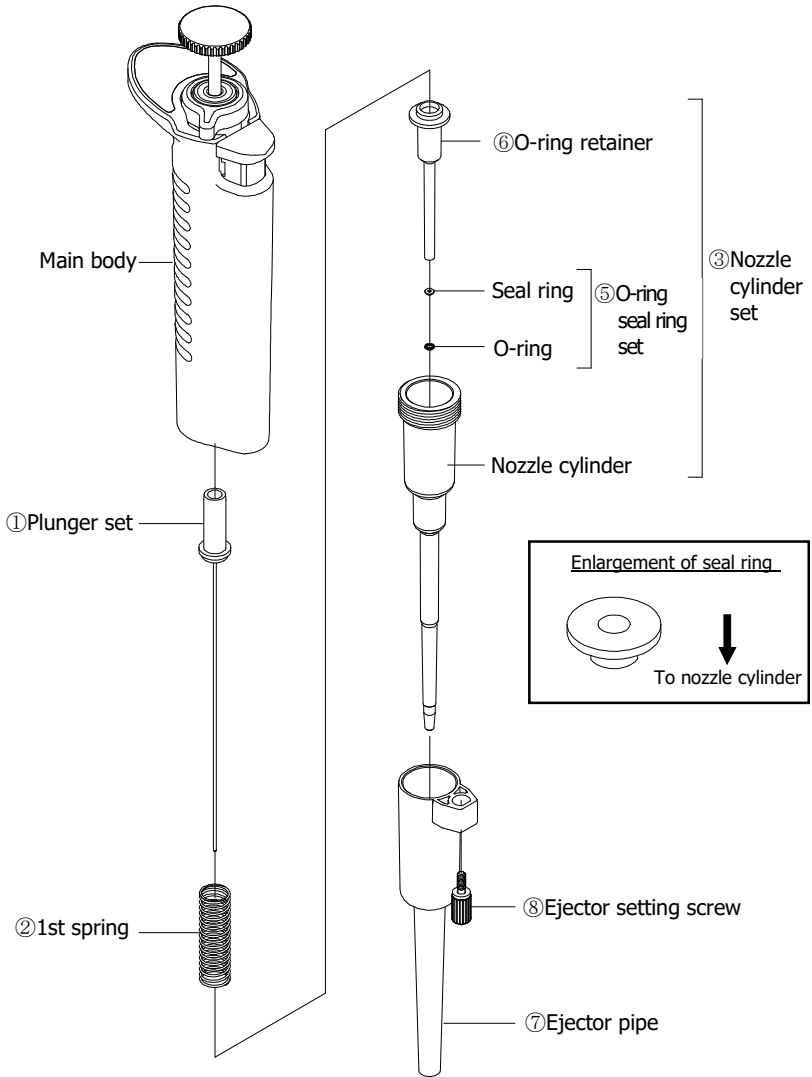
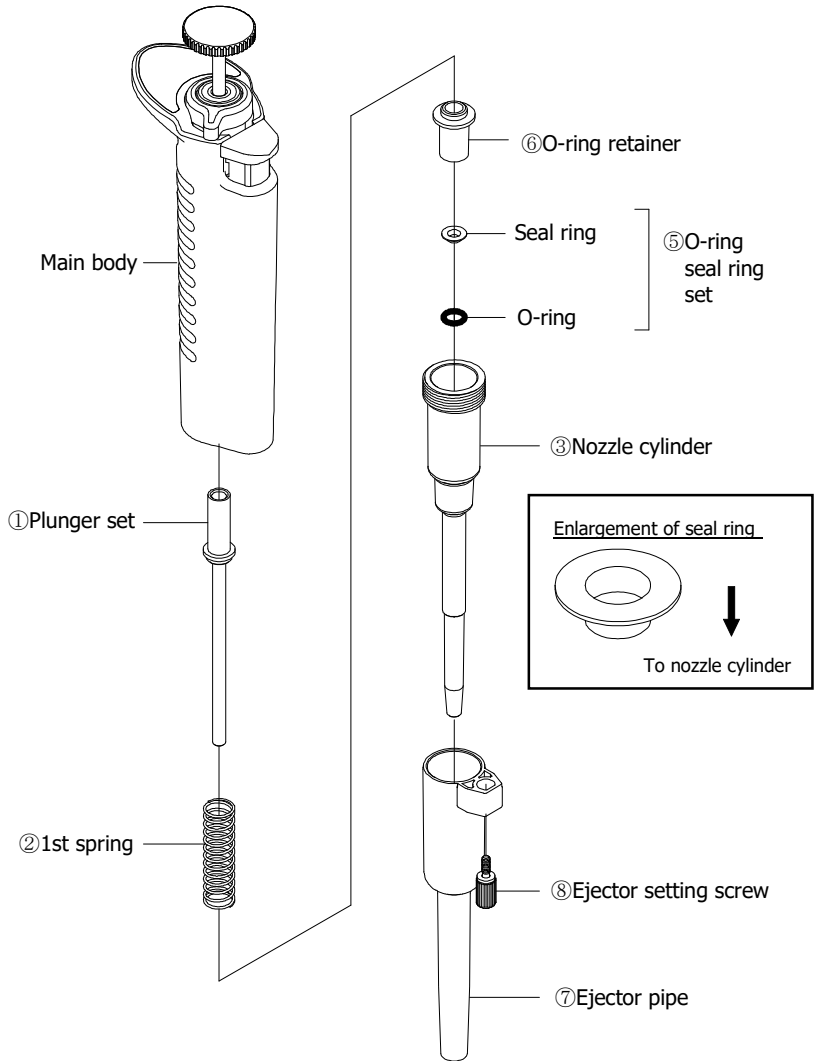
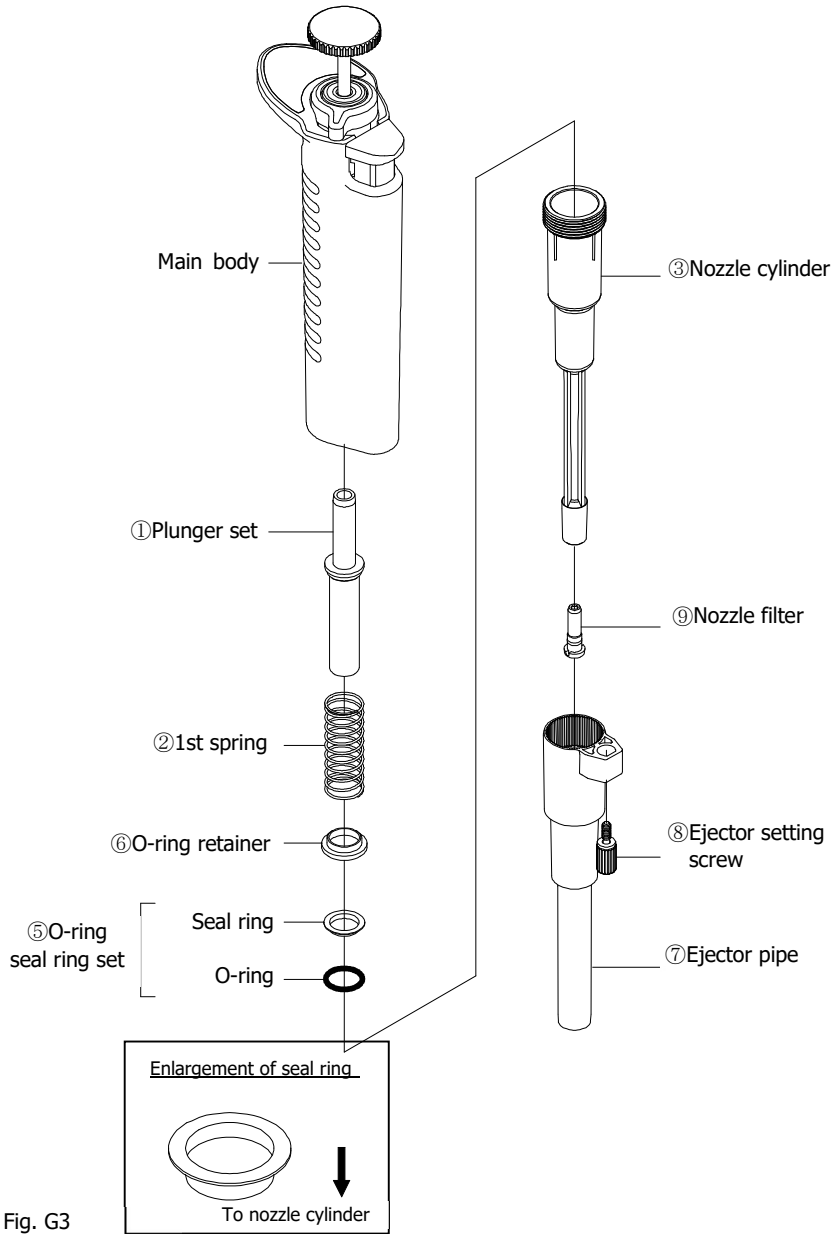

Fig. G1
Fig. G2
Fig. G3
- 3) Disassemble the internal parts as shown in; (Fig. G1) for Models: 2 μ L, 10 and 20 μ L, (Fig. G2) for Models: 100 μ L and 200 μ L, and (Fig. G3) for the Model: 1000 μ L.
- For models: 2 μ L, 10 μ L, 20 μ L (Fig. G1), 100 μ L and 200 μ L (Fig. G2), 1000 μ L (Fig. G3)
- Models: 2 μ L, 10 μ L, 20 μ L (Fig G1), 100 μ L and 200 μ L (Fig. G2), 1000 μ L (Fig. G3)
Circled Numbers in (Fig. G1) corresponds to Parts Numbers in the replacement parts list.
Circled Numbers in (Fig. G2) corresponds to Parts Numbers in the replacement parts list.
Circled Numbers in (Fig. G3) corresponds to Parts Numbers in the replacement parts list.